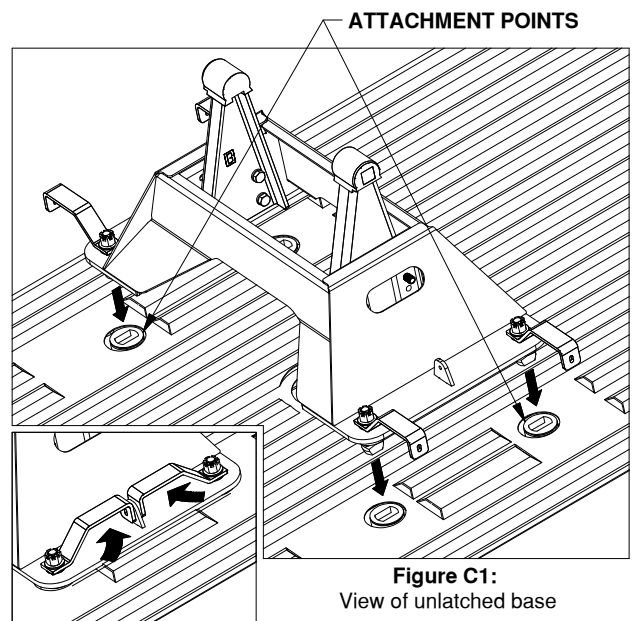

Figure C1:
- Place base.** Remove the latch pins from each side of the base and rotate the handles out, see Figure C1. Position the base over the attachment points. Carefully lower it until the latch cams pass through the floor and the base rests flat against the top of the attachment points.